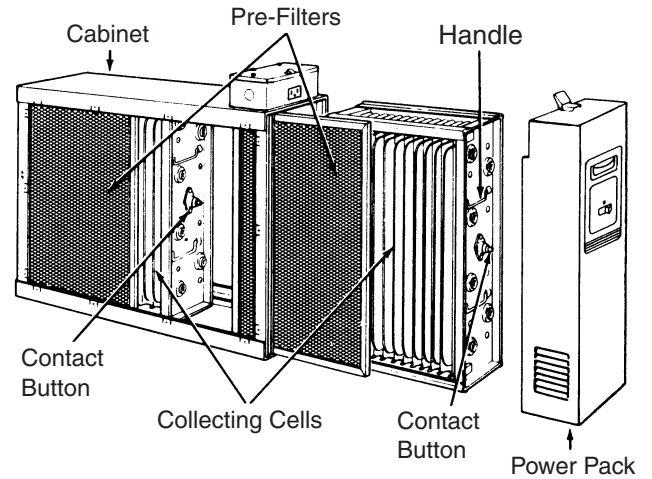

Figure 2
(See Figure 2)
**Collecting Cells** - two separate cells are included. Each cell includes ionizing wires which charge the particles and collecting plates which collect the ionized dust, dirt and other impurities from the air. Each cell must be installed with the ionizing wires on the air entering side. Each cell must be oriented with the handles and contact button toward the operator. See figure 2.